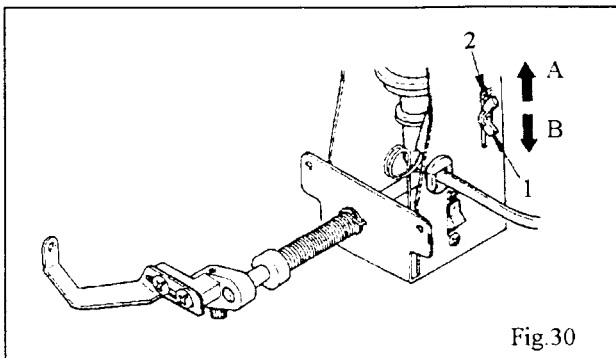

Fig.30
To adjust the slackness of the needle thread, loosen wing bolt (1) and slide it up or down, as required, using the indicator (2) and graduation as a yardstick as shown in Fig. 30.
NOTE: Excessive slackness of the needle thread may cause birds nest and thread breakage at start of sewing. Insufficient slackness may result in needle thread being pulled out of needle eye, skip stitching and needle breakage at start of sewing. When slack needle thread regulator function is not required, turn off switch (3) shown in Fig. 30.